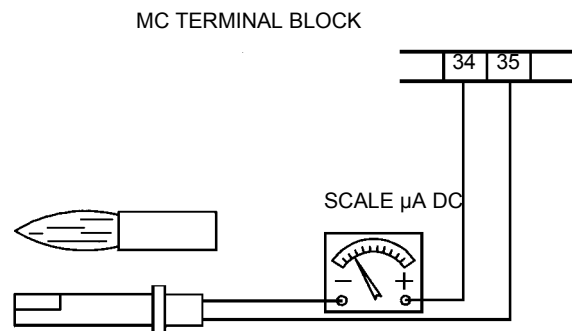

Fig. 11
- check and carefully clean the flame detection photoresistor, if necessary replace it and, if in doubt, check the detection current following the scheme in Fig. 11;
To measure the detection signal follow the diagram in Fig. 11. If the signal is not in the advised range, check the electrical contacts, the cleaning of the combustion head, the position of the photoresistor and if necessary replace it.